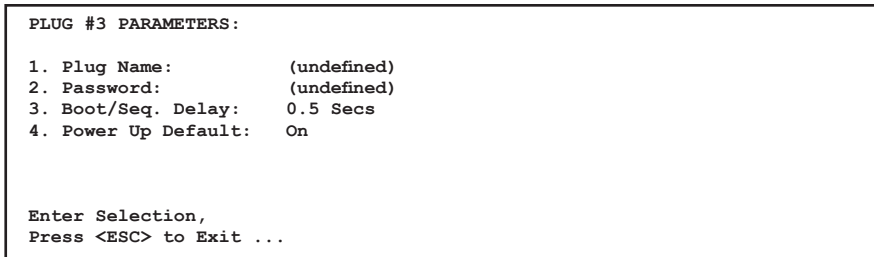

Figure 5.8: Plug Parameters Menu - Text Interface
- **Text Interface:** Type `/P n` and then press **[Enter]** (Where `n` is the number or name of the plug you wish to configure.) The Plug Parameters Menu will be displayed as shown in Figure 5.8.